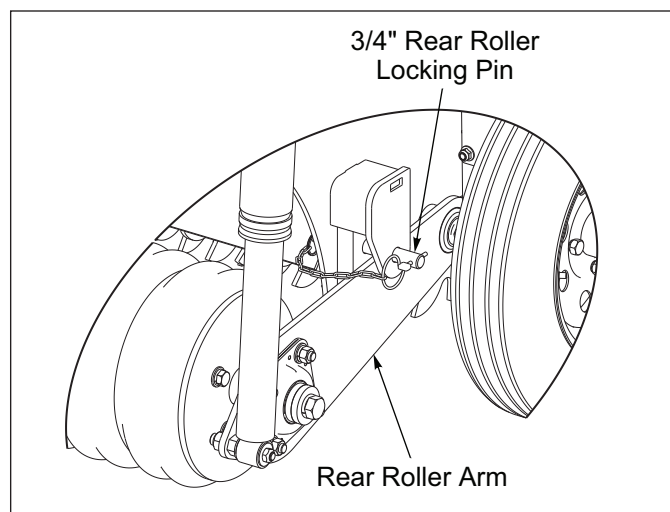

Figure 3-3: Rear Roller Locking Pin Engaged
3. Remove both 3/4" Rear Roller Locking Pins from the Frame LH and RH End Plates and place them in the Toolbox. **See Figure 3-3.**
2. Both sides, insert 3/4" Rear Roller Locking Pins into the Frame LH and RH End Plates to lock the Rear Roller Arm. **See Figure 3-3.**